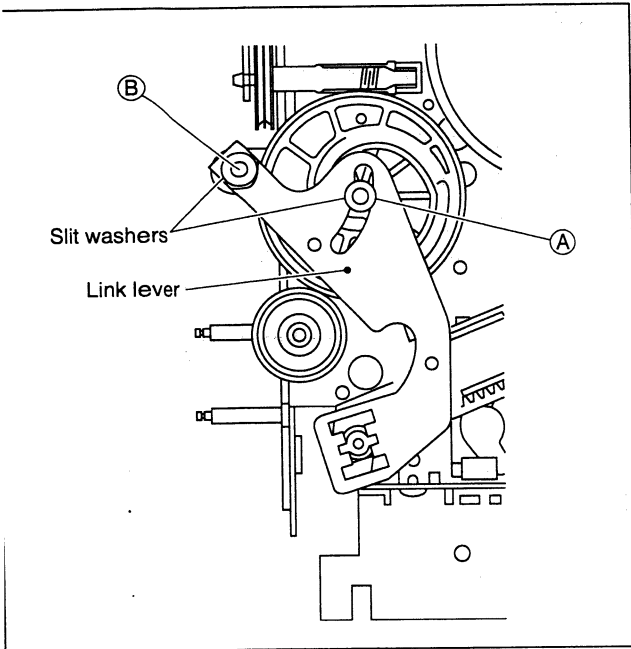

Fig. 2-3-6
- 4) Turn the link lever clockwise and mount it on the control cam center shaft (A) and the control cam left-side shaft (B). (See Fig.2-3-6).
- 5) Fasten the slit washers at two points (A) and (B).